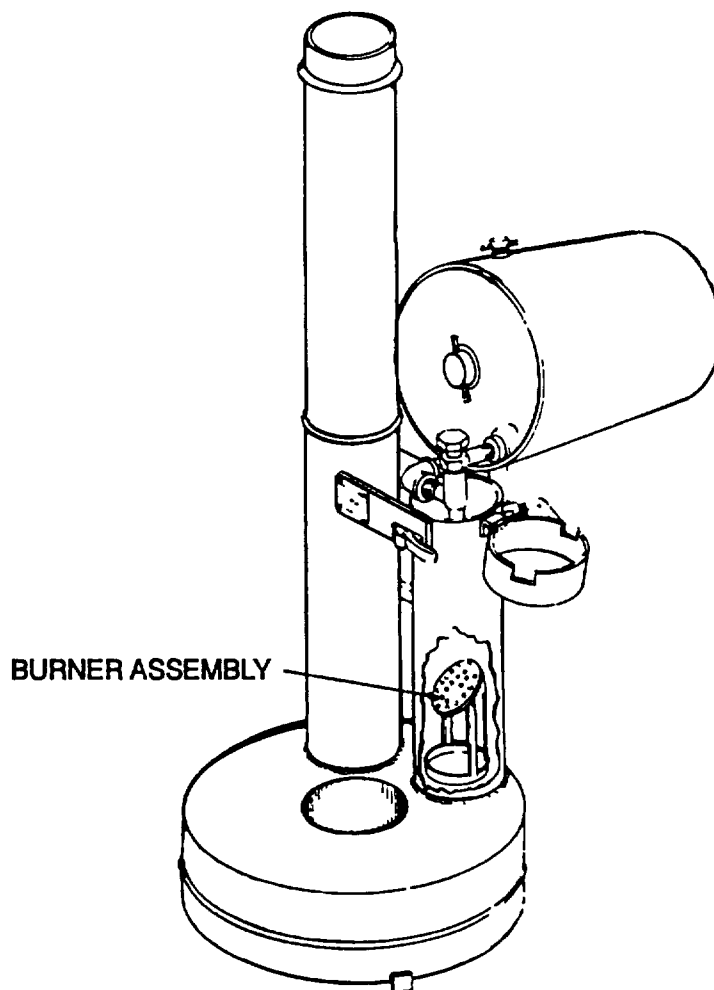

Figure 3-3. Immersion Heater Burner Installation
- a. Burner. Operator/crew maintenance is limited to installation which consists of placing the burner down inside the heater body (Figure 3-3).